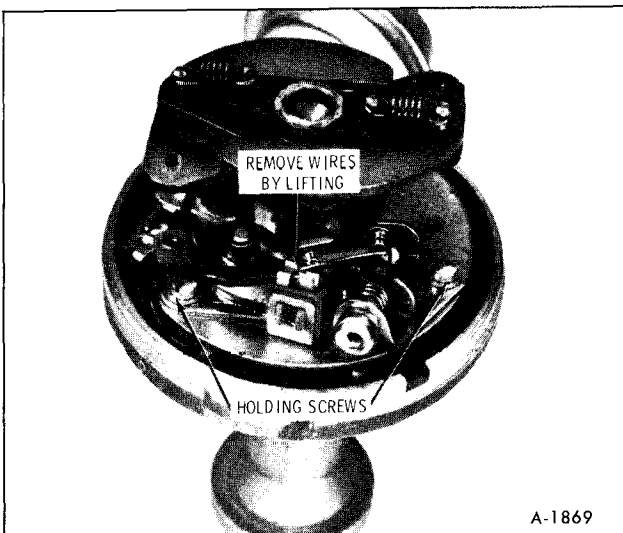

Figure 30—Removing Contact Points
3. Lift the two wiring terminals out of the snap-lock retainer, Figure 30, and remove the two screws and contact points.